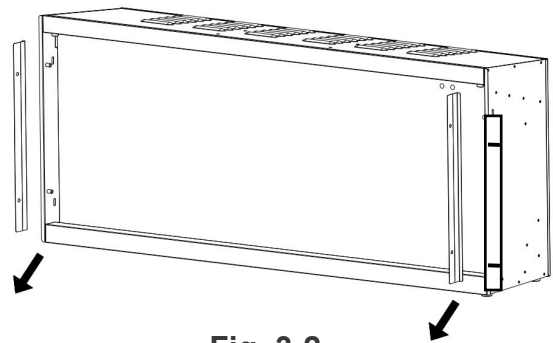

Fig. 3-2
- B. Carefully take the metal bracket(s) away from the appliance. Place it face down on a soft, non-abrasive surface. (Fig. 3-2)